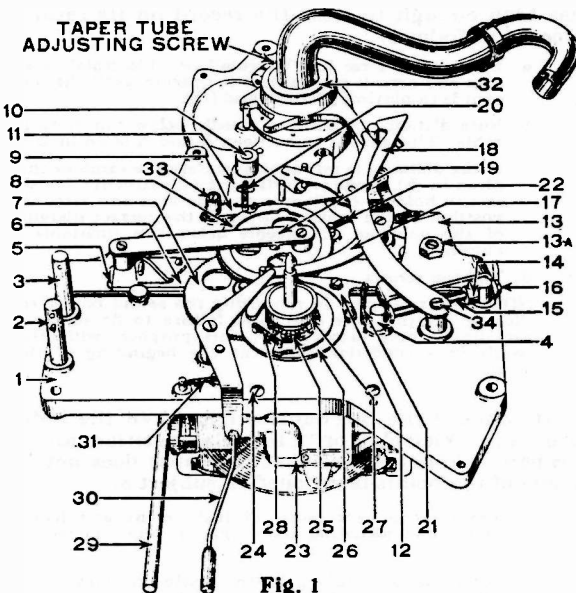

Fig. 1
NOTE:—The operating unit of the Automatic Electrolas differs from the Automatic Victrolas in the taper tube return lever No. 18, Fig. 1. All 10-50 units above serial No. 8950, all 10-51 above serial No. 800, and all 10-70 and 9-55 have a motor plate with provision for mounting the electric pick-up shunt switch and the remote reject control.
- d. Lifter ring posts (2 and 3, Fig. 1) out of line.